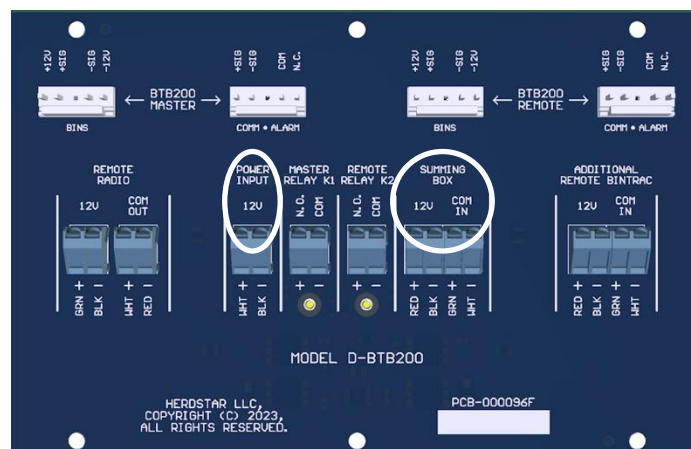

Figure 10a: Insert wires in appropriate terminal blocks.
31. Insert the wires into the terminal block where RED is +12V, BLACK is -12V, GREEN is +COM IN, and WHITE is -COM IN and (**Figure 10a**)